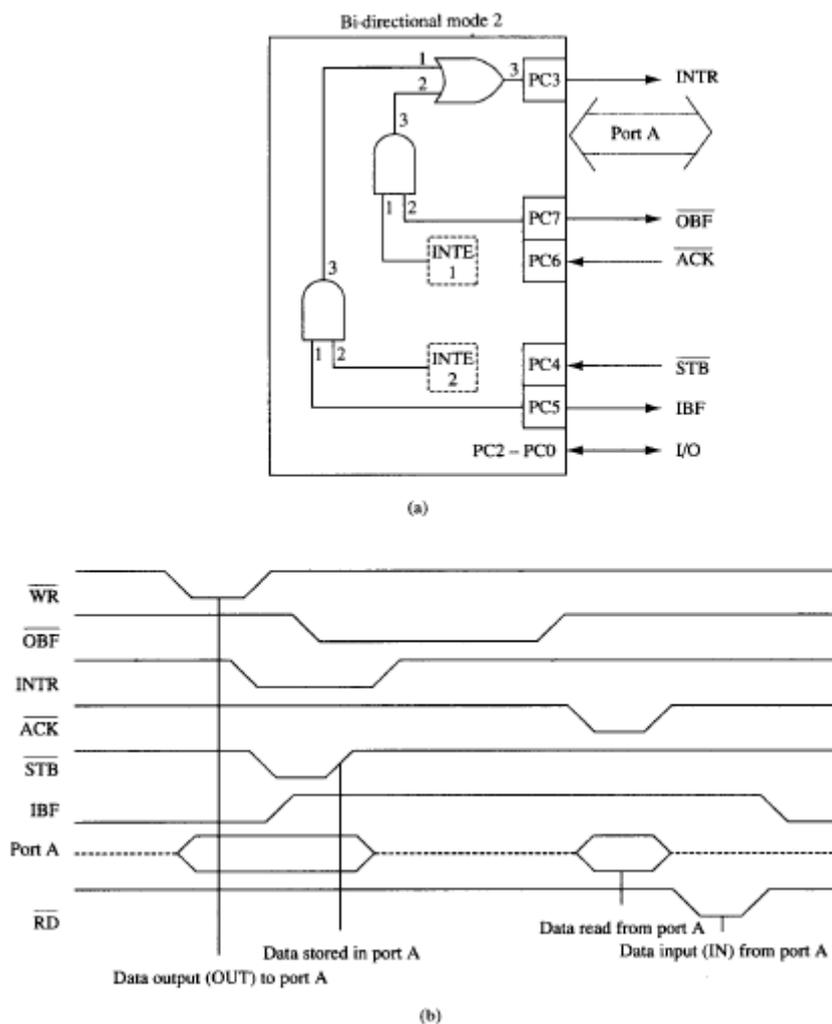

Figure 11-31: Mode 2 operation of the 82C55 a) internal structure b) timing diagram
- Bidirectional based data are useful when interfacing two computers (Figure 11-31).